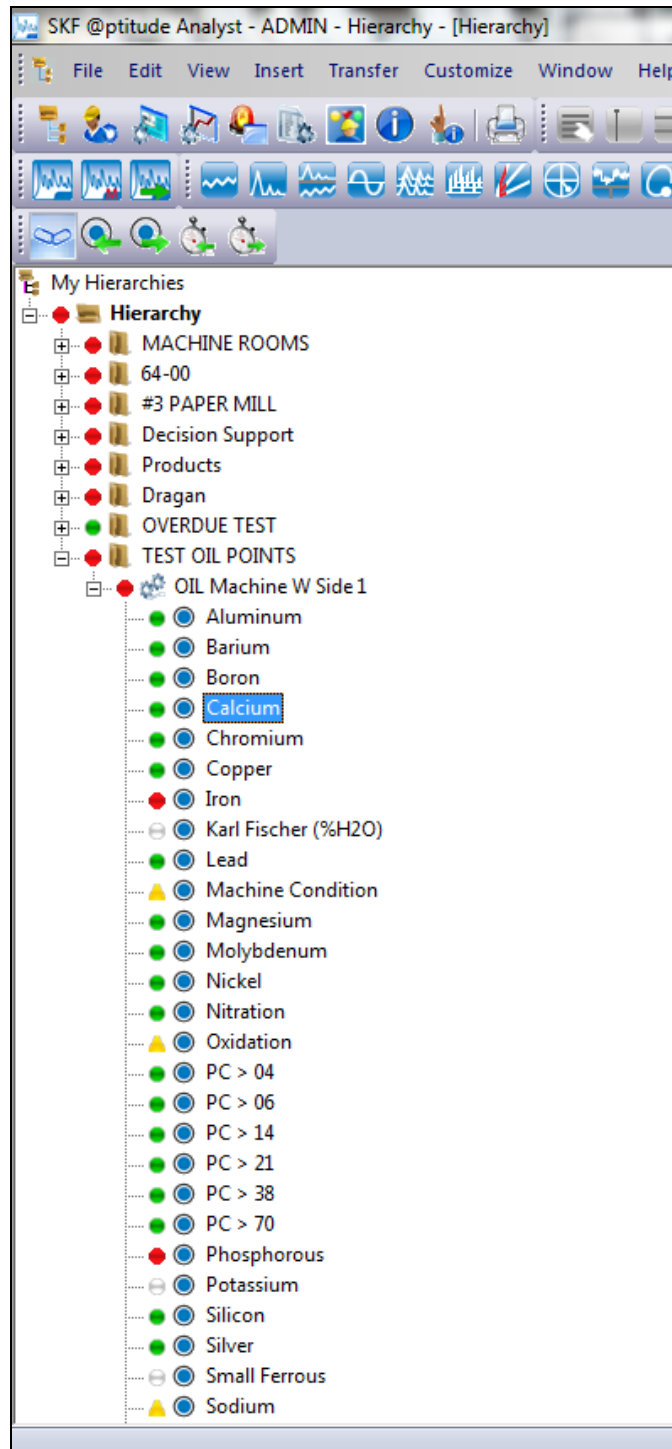

Figure 5. TEST OIL POINTS
8. POINTs with oil tags that contain data will populate/update. [Figure 5]